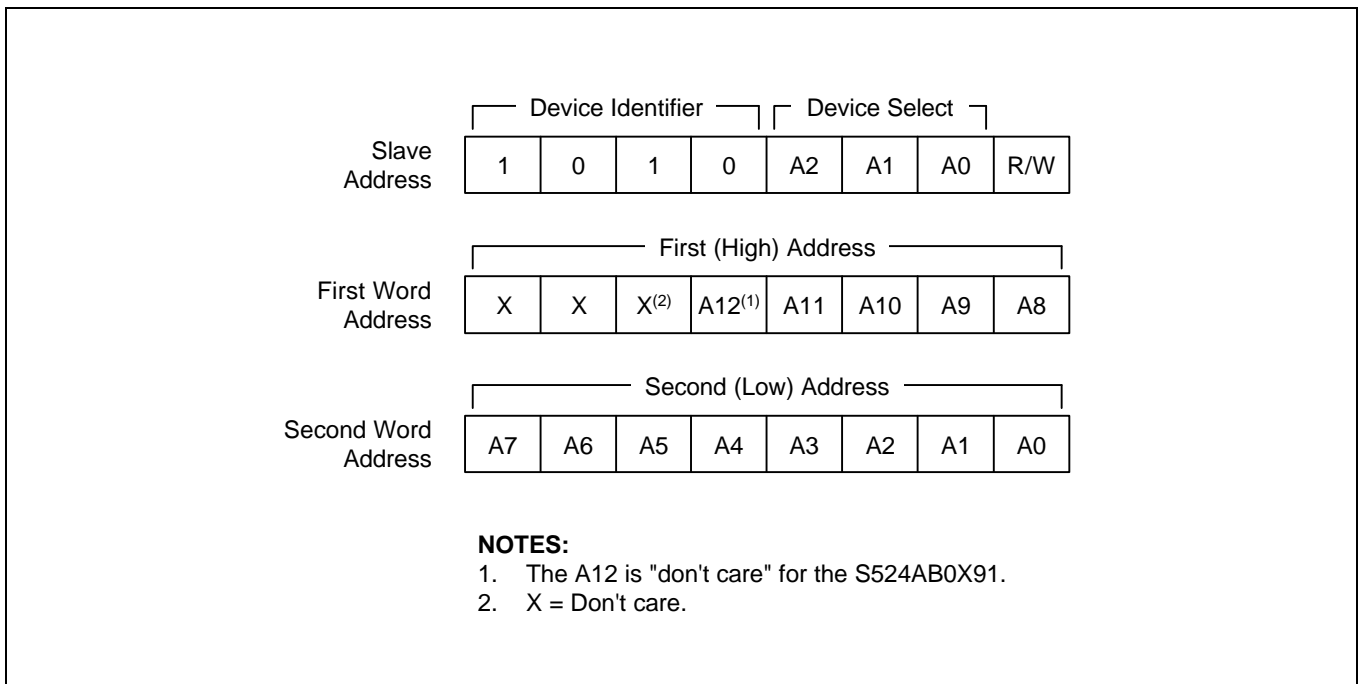

Figure 6-9. Device Address
- **Slave Address:** After the master initiates a start condition, it must output the address of the device to be accessed. The most significant four bits of the slave address are called the “device identifier.” The identifier for the S524AB0X91/B0XB1 is “1010B”. The next three bits comprise the address of a specific device. The device address is defined by the state of the A0, A1, and A2 pins. Using this addressing scheme, you can cascade up to eight S524AB0X91/B0XB1s on the bus (see Figure 6-9 below).